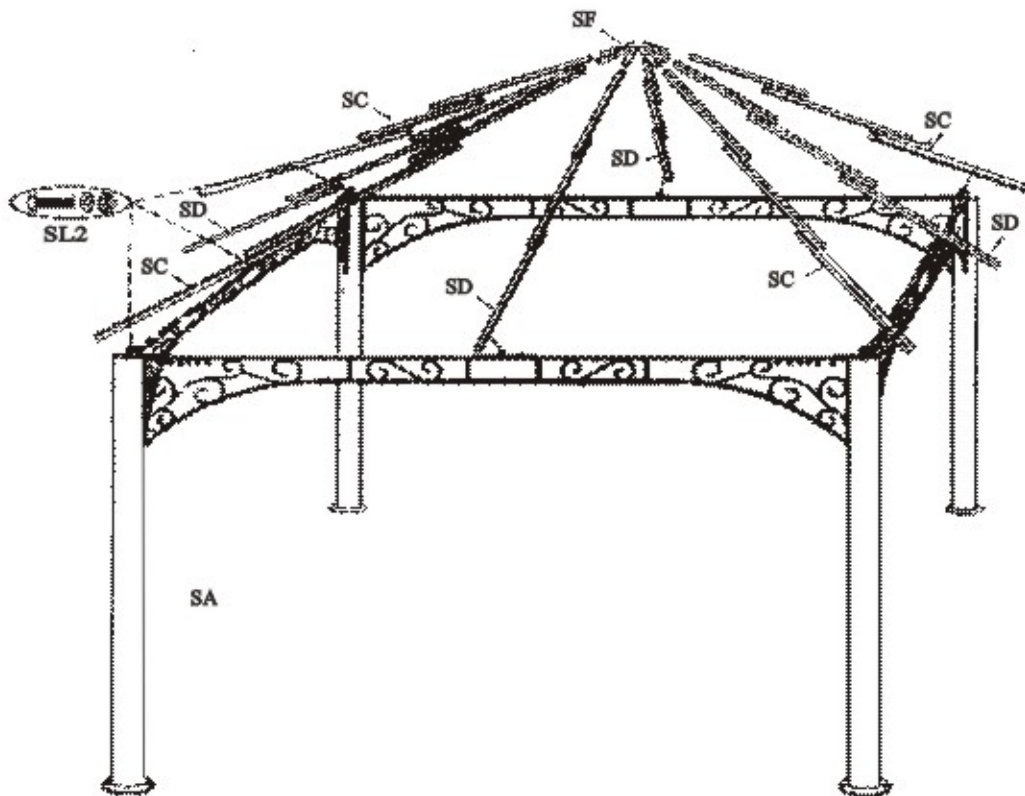

Figure 3 Top Frame Assembly
- 3、 Attach Long Top Supporting Tubes (SC) to (SA) Posts with (SL2) Bolts. Attach Short Top Supporting Tubes (SD) to connected (SB1) Lintels with (SL2) Bolts, as shown in Figure 3.